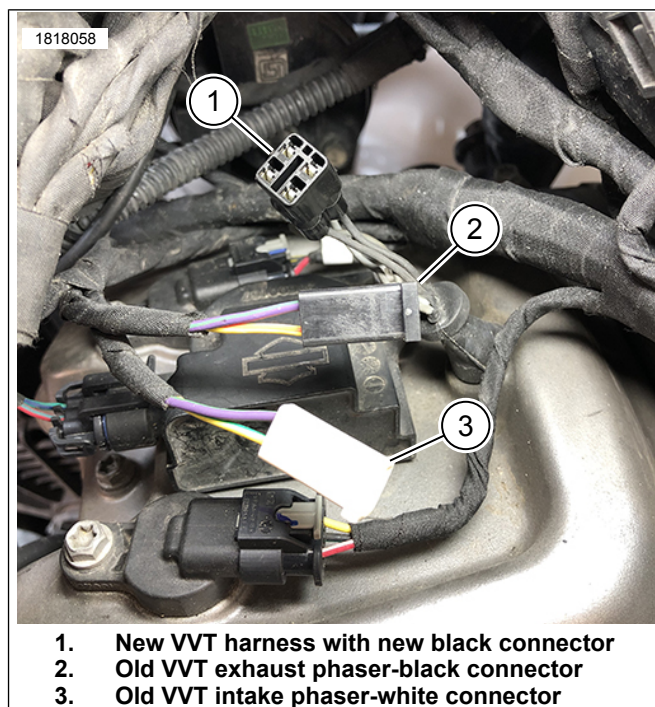

Figure 3. Front Cylinder (Typical)
2. See Figure 3. Cutoff black connector [270 FEA-1] (2).
2. See Figure 3. Cutoff white connector [270 FIA-1] (3).